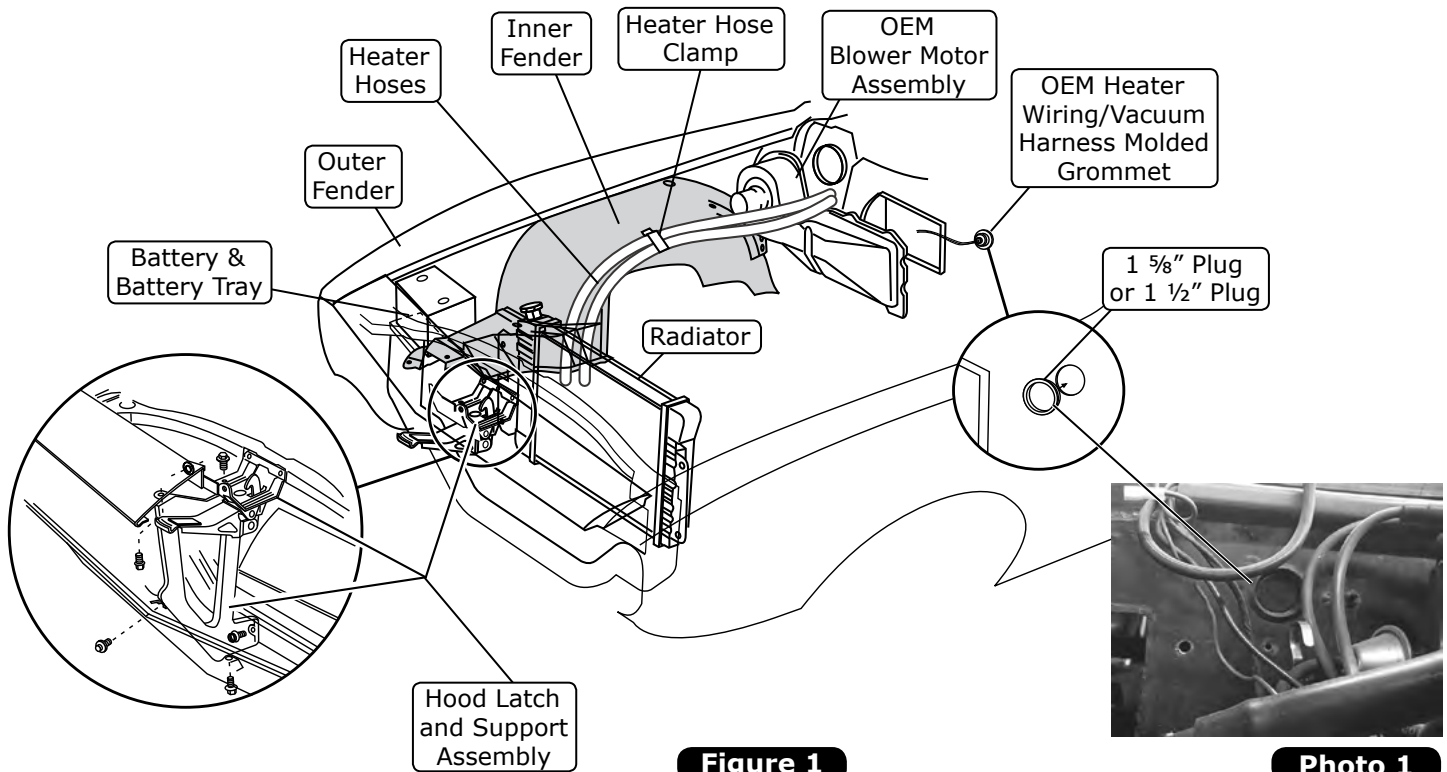

Figure 1
2. Remove the battery and battery tray (retain) (See Figure 1, below).
4. Remove the hood latch and hood latch support assembly (retain) (See Figure 1, below).
5. Remove the OEM heater hoses (discard) (See Figure 1, below).
6. Remove the OEM blower motor assembly (See Figure 1, below). **NOTE: To remove the blower assembly (under hood) and the air distribution system (under dash), the factory manual recommends the following: Remove the right lower rocker molding. Remove the fender attaching bolts. Remove the skirt-to-fender and skirt-to-reinforcement screws. Pull out on the lower portion of the fender, moving the skirt away from the fender flange and firewall. Block the skirt with a 2" x 4" block of wood. To avoid damage to the paint and sheet metal, and for ease of removal and replacement of components, Vintage Air recommends that the right fender be removed, and the inner panel lowered. Removing the right front tire will provide easier access to the inner fender bolts.**
7. Remove the OEM heater wiring/vacuum harness molded grommet (discard) (See Figure 1, below).